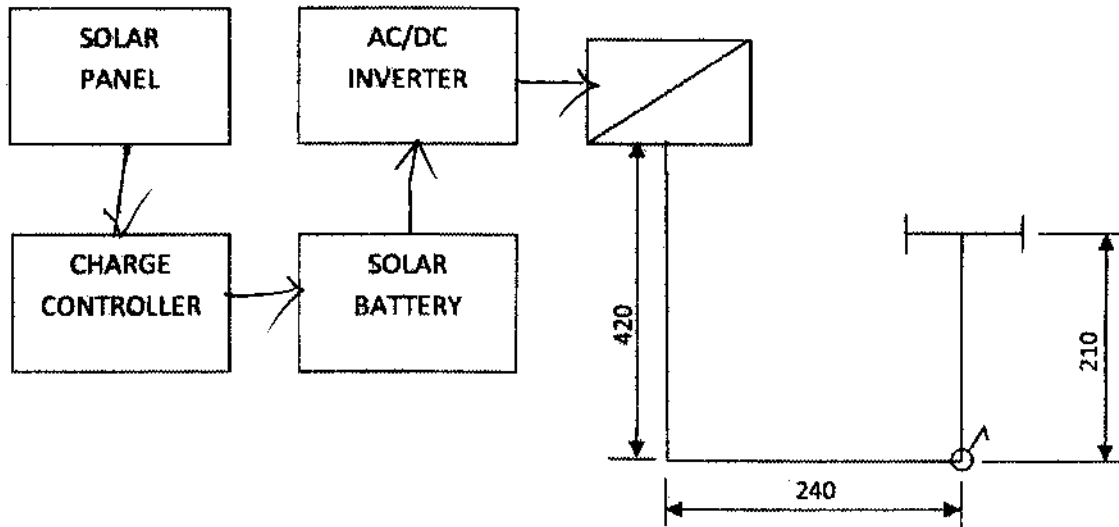

FIG 2
2. Figure 2 shows the layout of a solar installation comprising of one final circuit.